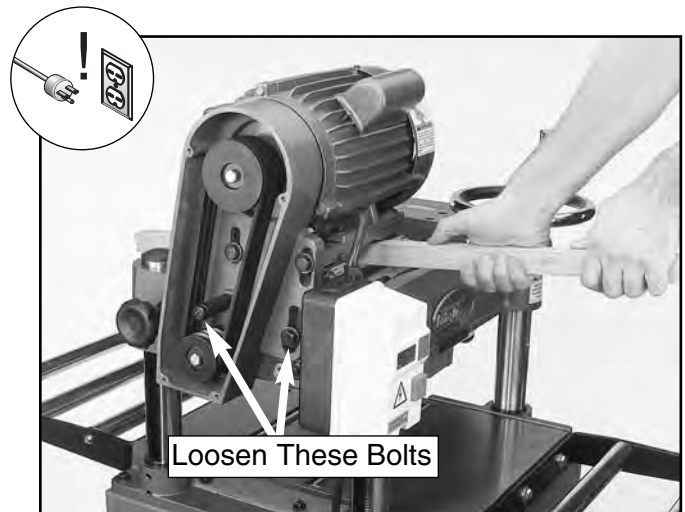

Figure 20. Tensioning Belt.
2. Insert a wooden lever between the motor mount and the top of the planer as shown in **Figure 20**.